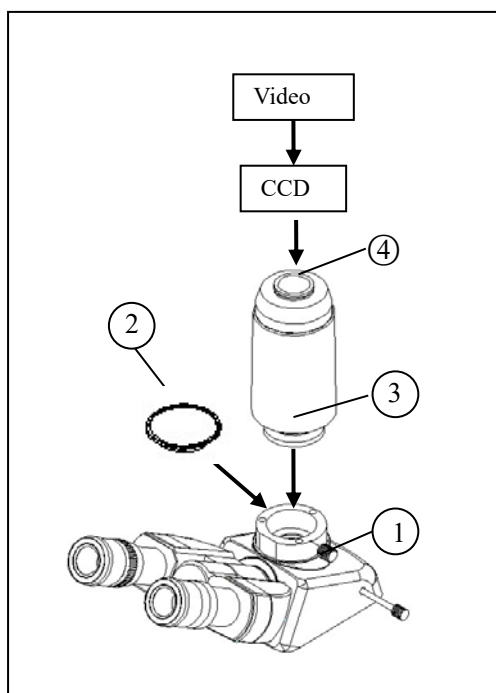

Fig. 30
#### 5-1-2 Installing the Video Set (Fig.30)
1. Loosen the locking bolt① on the trinocular viewing tube, and take out the dust cap②.
2. Remove the dust cover on the both ends of the video accessories③, and revolve the CCD/CMOS set into the screw thread end---the video adapter④ with C-mount.
3. Install the video accessories③ into the tri-through port as shown in fig.30, and screw down the bolt①.
### 5-1-3 Focus (Fig.30)